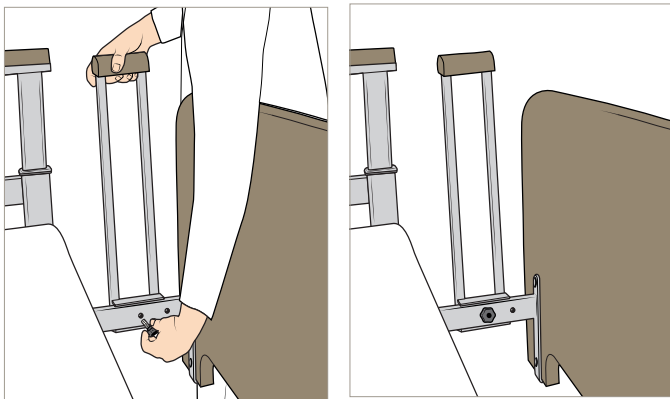

Figure 55
2. Tighten the knob on the inside of the bed frame. See Figure 55.